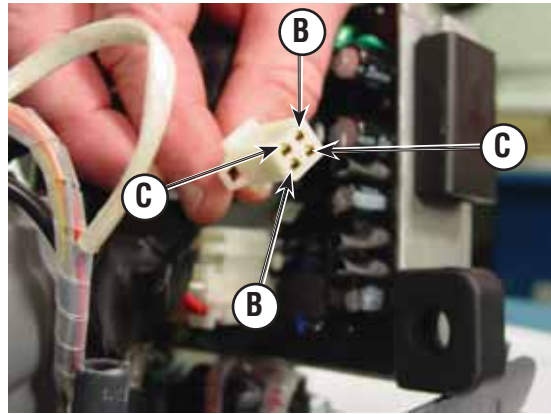

Figure 39
2. Measure the resistance across wires (B, Figure 39).
3. Measure the resistance across wires (C, Figure 39).